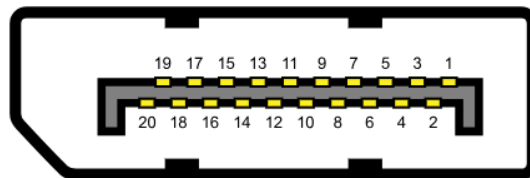

Figure 4-27: DP Connector Pinout Locations
- CN Pinouts:** See **Table 4-24** and **Figure 4-27**